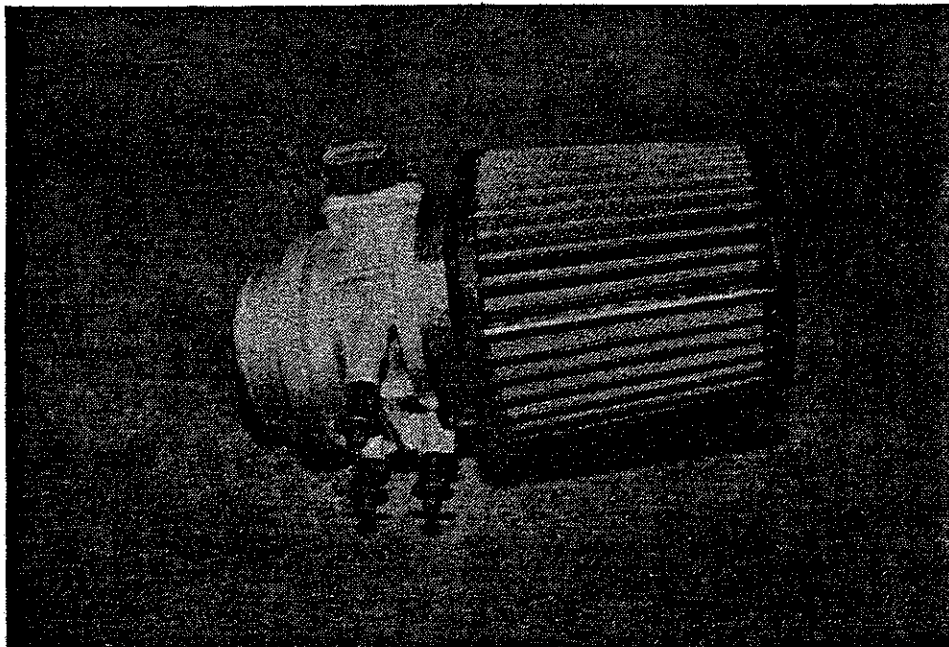

FIGURE 13
22. Install the furnished Air Filter onto the intake side of the Mass Air Flow Sensor (side with screen), as shown in Figure 13. (See Manufacturer's specifications for Air Filter maintenance.)